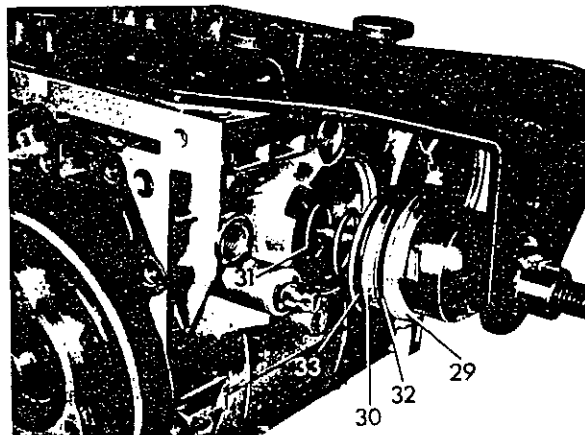

Fig. 14
18 Release assembly fixture and remove brake band piston cover (29) with brake band piston B 1 (30) and pressure spring (31) **Fig. 14**